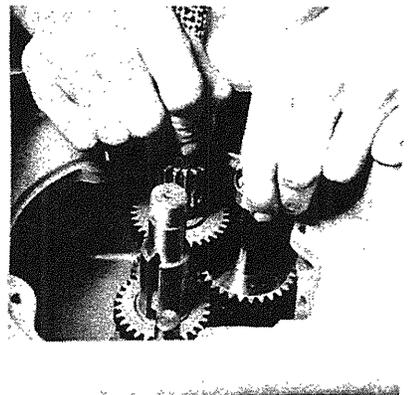

Fig. 3-15
- O. Remove worm gear shaft and transmission shaft together (Fig. 3-15).